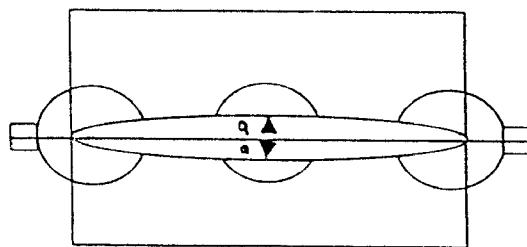

FIG. 2.
- c. Set 2 magnets of horizontal position to up and down equally so that it will be the center part of CRT. (Fig. 2)